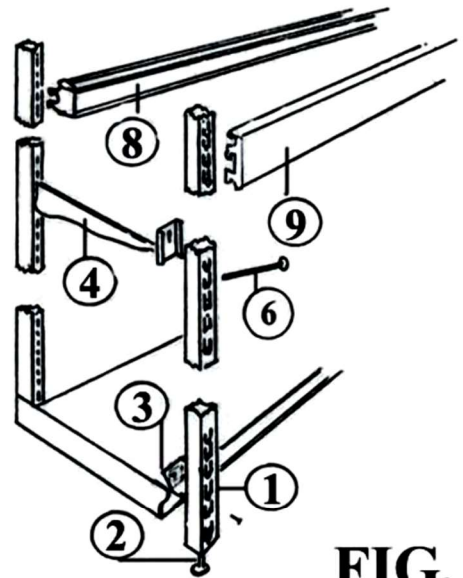

FIG. 2
- B) Two Support Brackets (4) should be installed on each side of the unit and spaced 1' from the top and bottom. Hook Support Bracket (4) into Upright Slots and position slotted end with channel so it aligns with the hole in the Post. (1) Insert screw through hole in vertical slot and into slot of Support Bracket. (4) (See FIG. 2 on Page D)